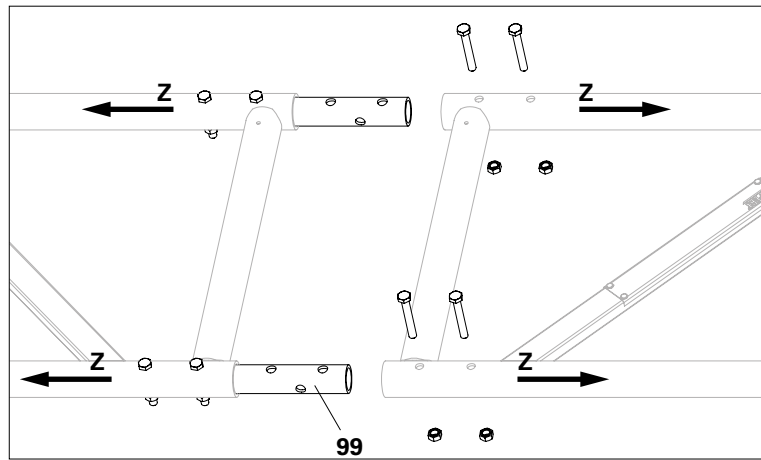

Fig. A11.15a
2. Fit the second lattice girder onto the Connectors ULT and mount each with 2 screws M10 x 70-8.8 with nut. (Fig. A11.15a)